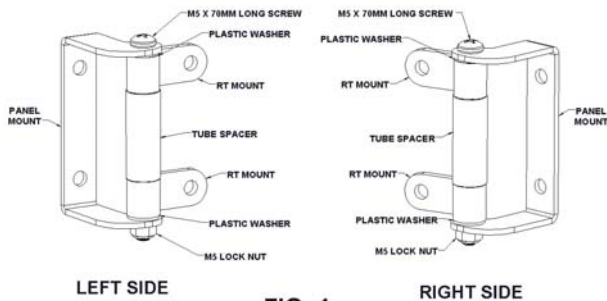

FIG. 1
2. REMOVE THE HARDWARE KIT FROM THE PACKAGE AND ASSEMBLE THE PARTS AS SHOWN IN FIG. 1 BELOW. ADJUST THE TENSION OF THE SCREW AND LOCK NUT SO THAT YOU CAN EASILY MOVE ALL OF THE MOUNTS.